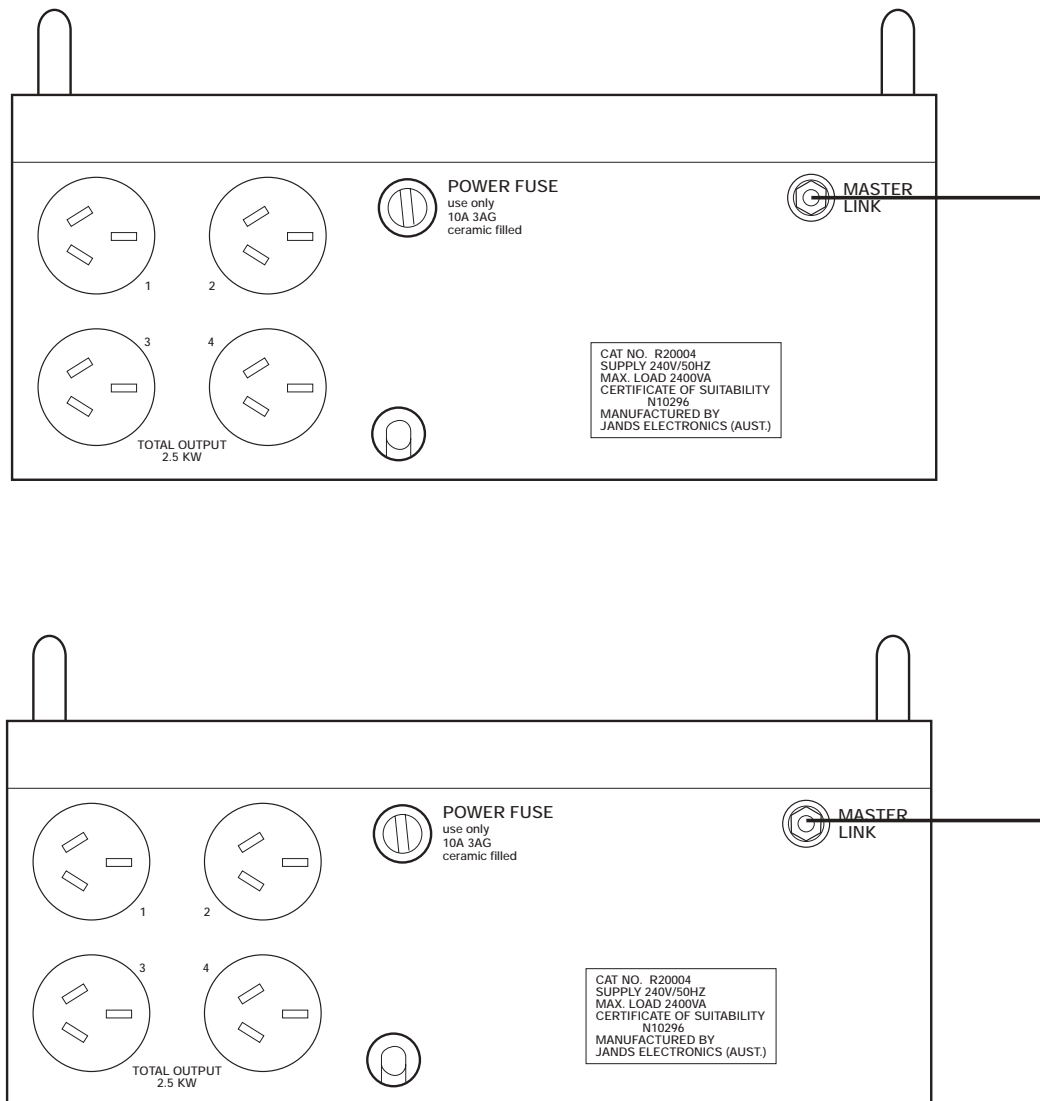

Figure 1. How to Master Link two 4PAKs.
On the back of the 4PAK is a 6.5mm jack socket. This is used for expansion purposes as follows. If two (2) 4PAKs are used in tandem, Master-Linking (as shown in Figure 1) allows all eight (8) channels to be controlled by a common Master fader. In this mode, the 4PAK Master fader with the highest level setting determines the overall master level. For this reason one (1) Master fader would normally be left at zero and not used. The Master Link can be any working 6.5mm to 6.5mm jack lead, such as a guitar lead.